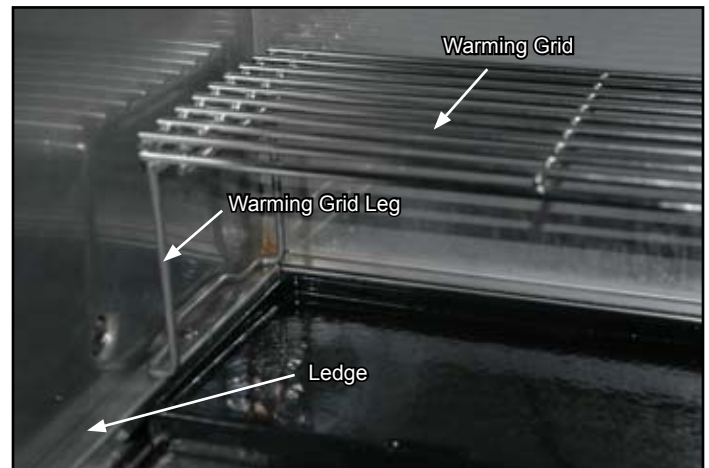

Figure 15
4. Place the assembled warming grid to the rear of the grill compartment above the searing plate. The legs will rest on ledges along each side of the grill compartment. See Figure 15.